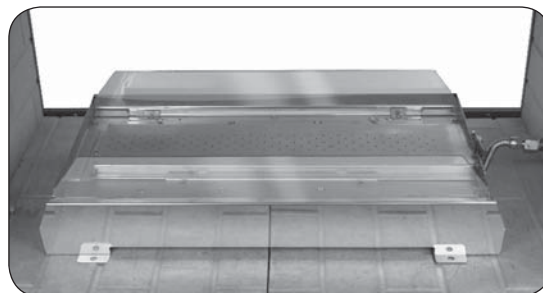

Fig. 15-3 Front cover installed
- Remove the protective coating off of the reflective front covers. **DO NOT** use a sharp object to remove coating. Install the covers onto each side of the burner system (see Fig. 15-3).